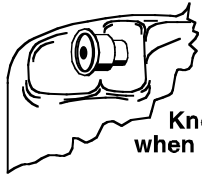

Fig. 1
9. Pressurize tank by pumping approximately 15-20 times (depending upon amount of liquid used.)* If a hissing sound through pressure relief valve is detected, sprayer is overpressurized. Quit pumping. Leave tank on a level surface until hissing stops. *As tank becomes pressurized, the knob of the pressure relief valve and gauge will extend exposing a color band. This band indicates the sprayer pressure operating range. (See figures 1 and 2)